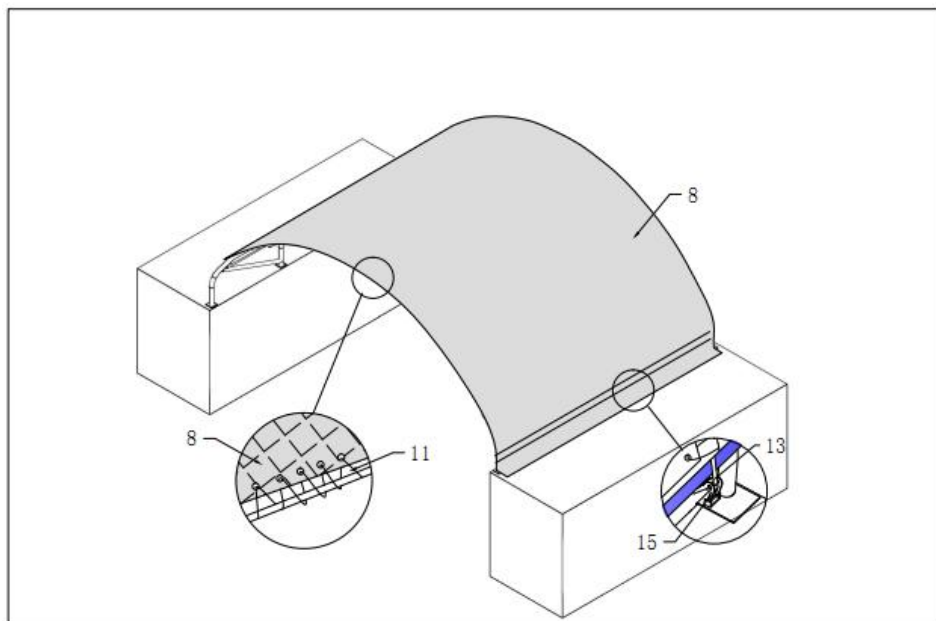

Figure 6
3. As **Figure 6 shown**, Cut **some pockets** according to the position of the base plates and put the lower tensioning tubes for roof cover (**part code 7**) into the pocket of roof cover. Then use Straps (**part code 13**) to tie down the Lower tensioning tubes like the Figure. Finally install the ϕ 32 Plastic plug for base rail section (**part code 12**) into two end of the lower tensioning tubes.